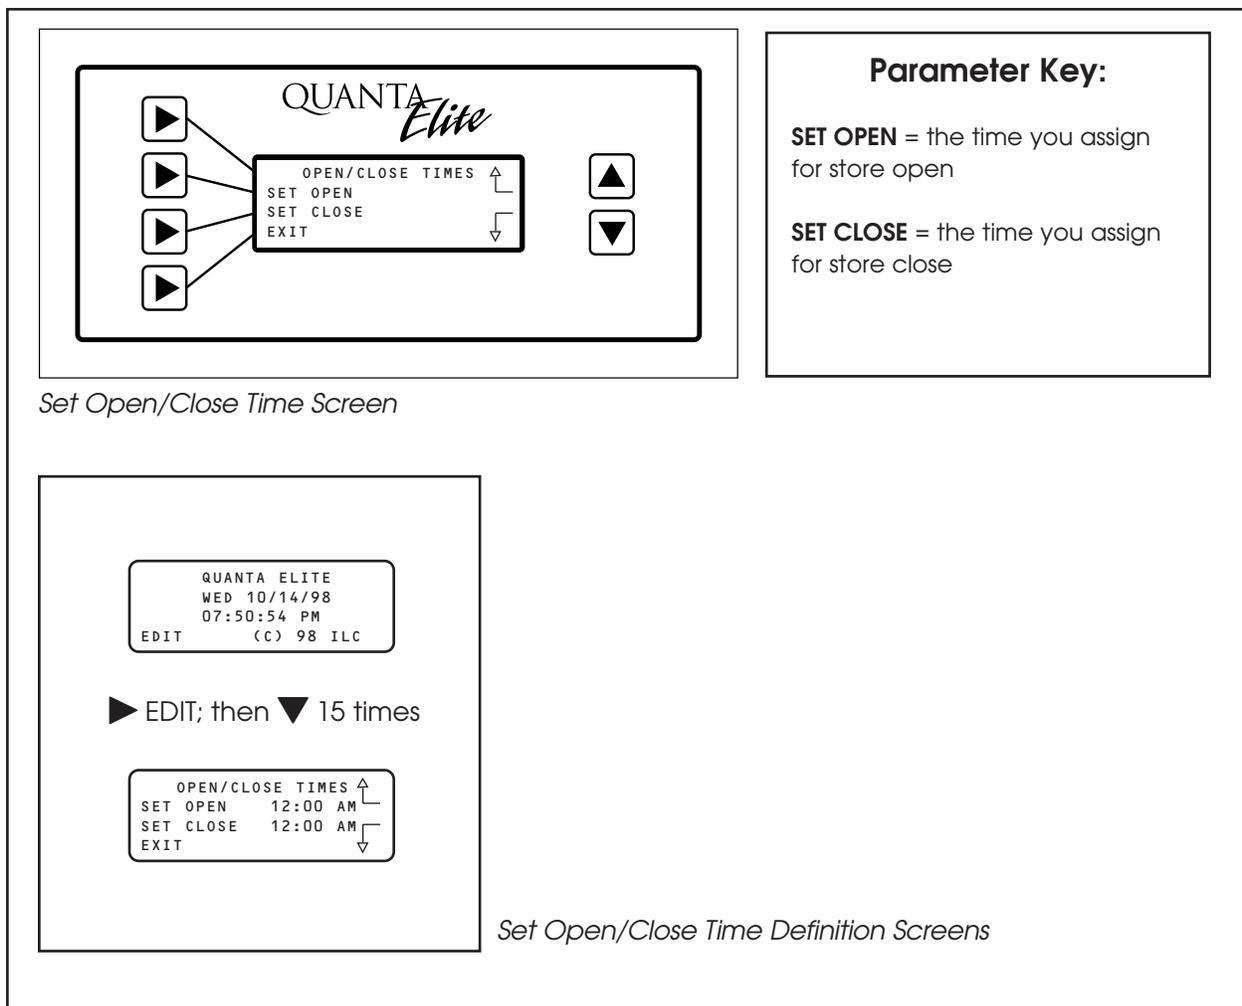

Figure 3.19
2. Then press ▼ 15 times to access the Set Open/Close Times screen. (See Figure 3.19.)